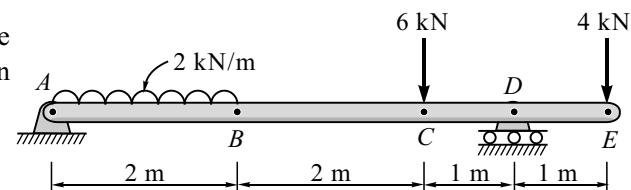

Fig. 3.E34
35. Determine the reactions at all the supports of the beam/ structure shown in Fig. 3.E35.